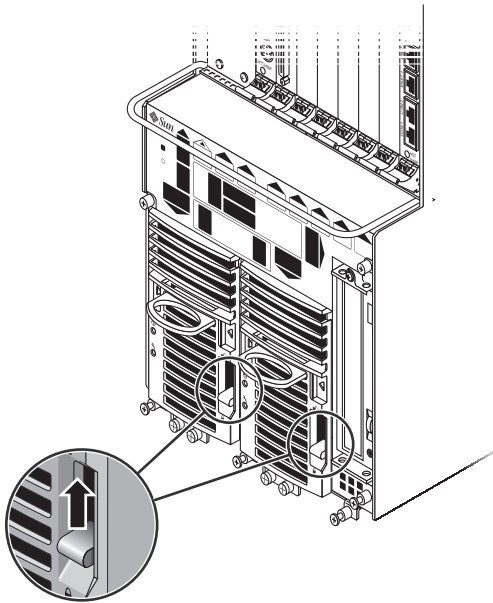

FIGURE 2-1 Locating the Power Supply Locking Mechanism on the Netra CT 810 Server
FIGURE 2-1 shows the location of the power supply locking mechanisms on the Netra CT server. Make sure you lock *both* power supplies if you are powering on a Netra CT 810 server.
6. **If you want to completely power off the Netra CT server, push the purple power supply unit locking mechanism(s) up into the unlocked (⏏) position (FIGURE 2-1).**
7. If you want to completely power off the Netra CT server, push the purple power supply unit locking mechanism(s) up into the unlocked (Ⓛ) position (FIGURE 2-1).